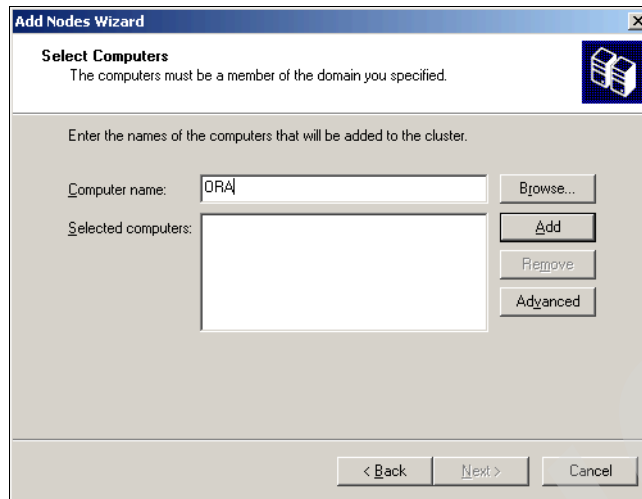

Figure 23-52 Select computers
3. Enter a host name of one of the remaining cluster nodes and click **Add**. The **Browse** button can be used to find the nodes. Our example is a two-node cluster, so enter the other node name, Ora, as shown in Figure 23-52.